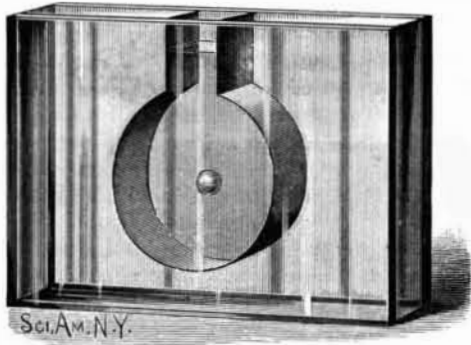
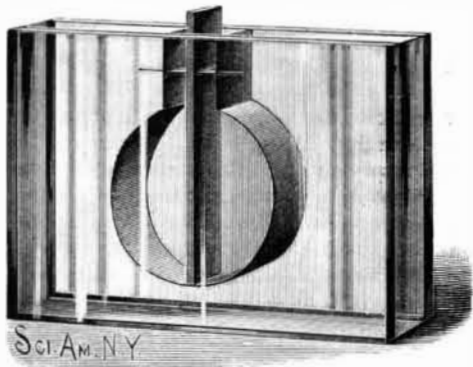

Fig. 1.—COHESION.
Fig. 2.—REDUCTION OF VOLUME BY MIXTURE.
In Fig. 1 is shown the well known experiment illustrating cohesion. In the tank is placed a mixture of alcohol and water, having the same specific gravity as olive oil. Into the mixture is very carefully introduced a globule of olive oil, which may be colored or not. The oil assumes a perfectly spherical form, and produces a very interesting image on the screen.
In Fig. 2 is shown the method of projecting the experiment in which the volume of equal parts of alcohol and water is less when they are combined than it is when they are separate. The tank has a large chamber with a narrow neck. The chamber is divided in the center by a removable partition having soft rubber
The steam steering-gear herewith illustrated, which has been patented by Mr. Frank B. Turner, of Portland, Oregon, consists in a long steam cylinder, with a piston whose rods reach through opposite ends of the cylinder, and are connected with the tiller ropes, Fig. 1 showing a side elevation, Fig. 2 a transverse section of one of the valves, and Fig. 3 a longitudinal section. The pipes entering opposite ends of the cylinder, as shown in Fig. 3, communicate with a central three-way valve, one of whose openings receives the steam
**Figs. 1 and 2.—ANCHORAGE OF THE ARCH AND SUPERSTRUCTURE OF THE GARABIT VIADUCT.**